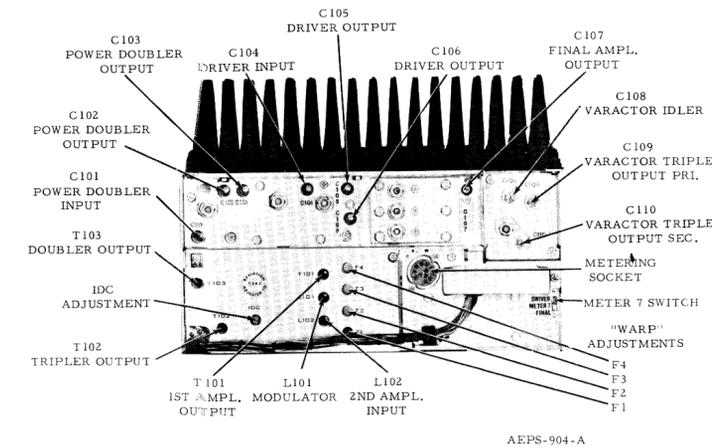

Figure 1.
- Adjust the appropriate channel element frequency warp adjustment (see Figure 1) until the Digital Meter reads the proper frequency as determined in the preceding explanation of the temperature compensated oscillator frequency.